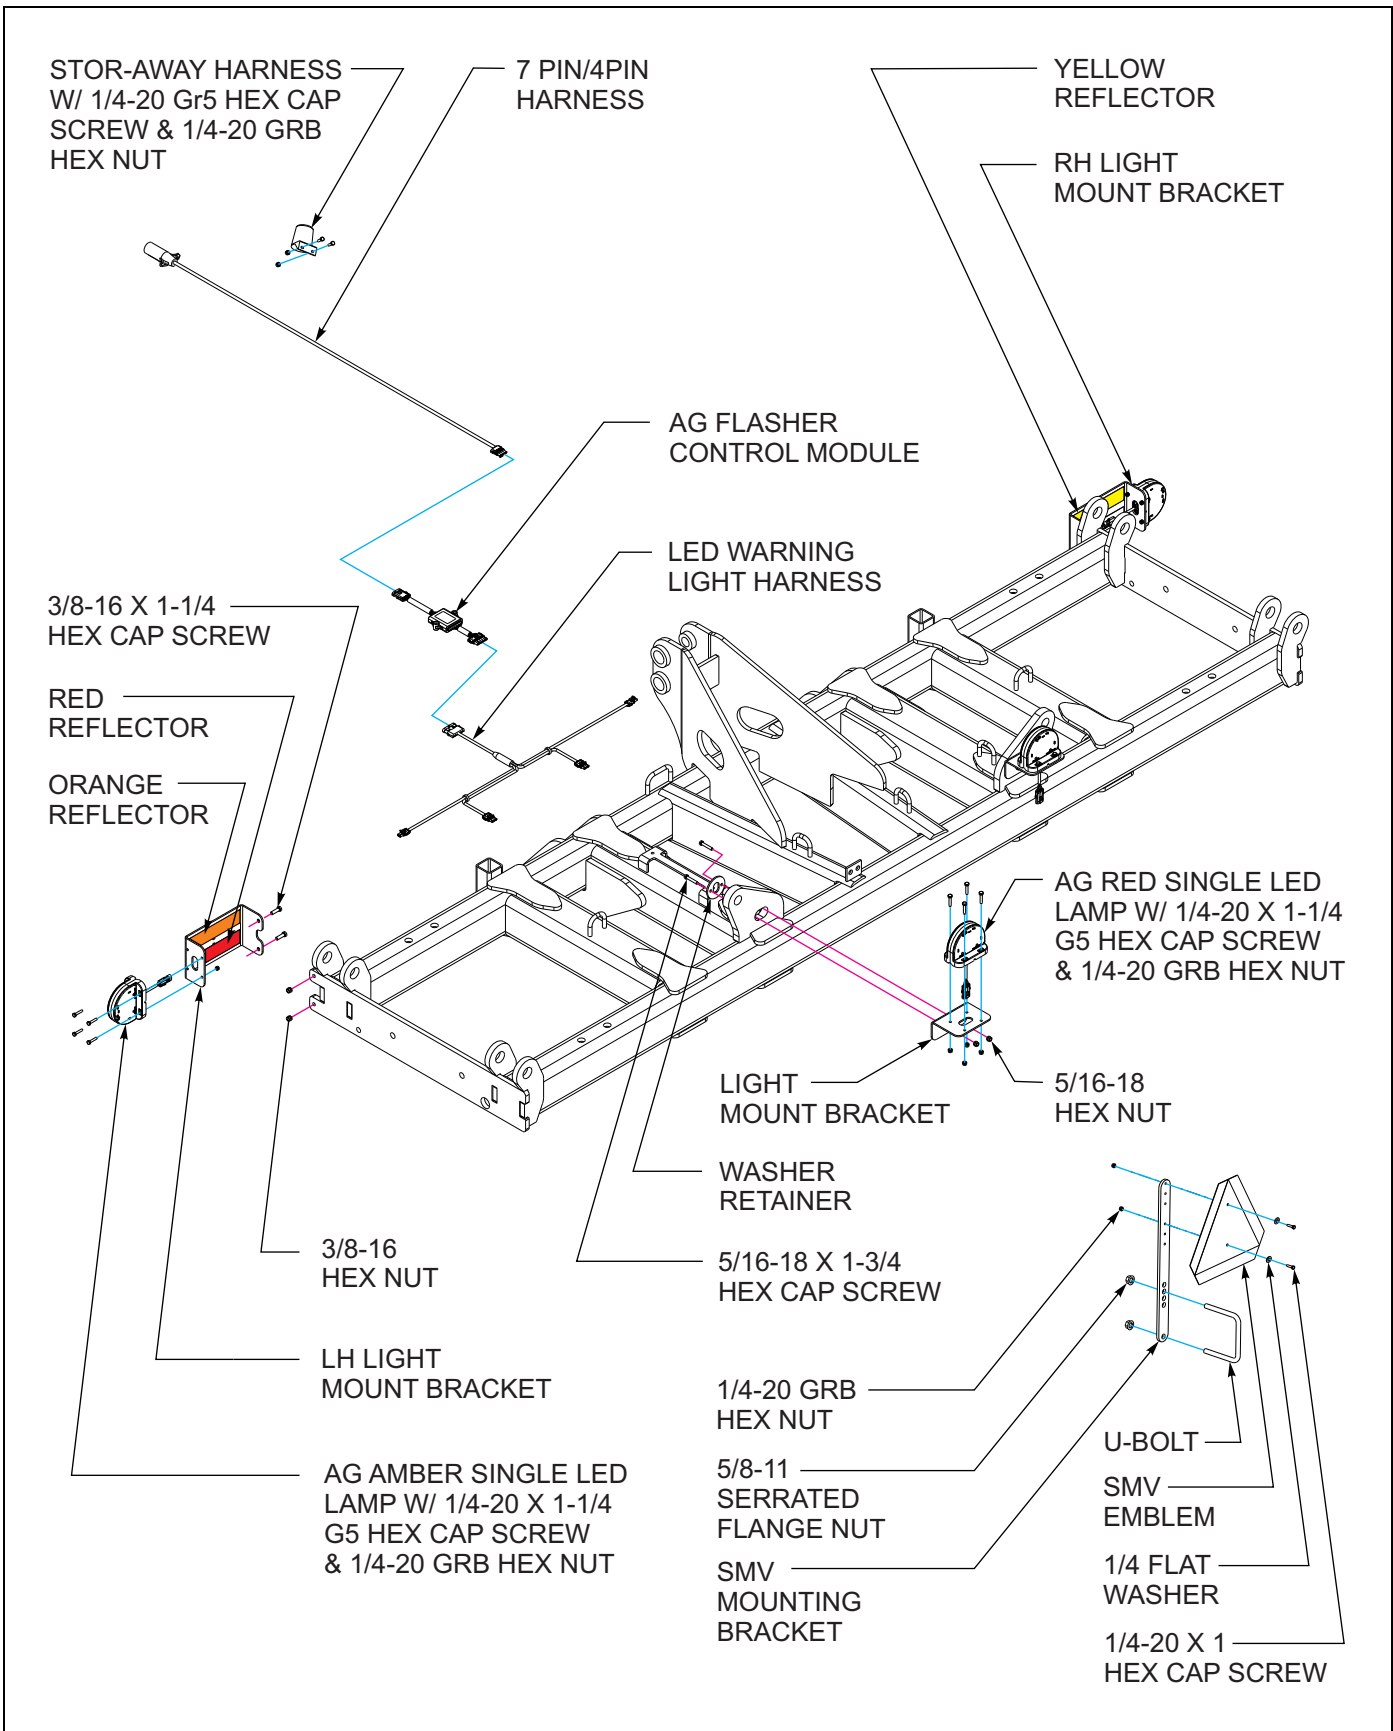

Figure 3-14: LED Light and SMV Bracket Installation - 7, 8, & 9 Folding Frame
2. Attach SMV emblem to top of SMV mounting bracket using 1/4-20 x 1 hex head cap screws, flat washers, and hex lock nuts (See Figure 3-14.)